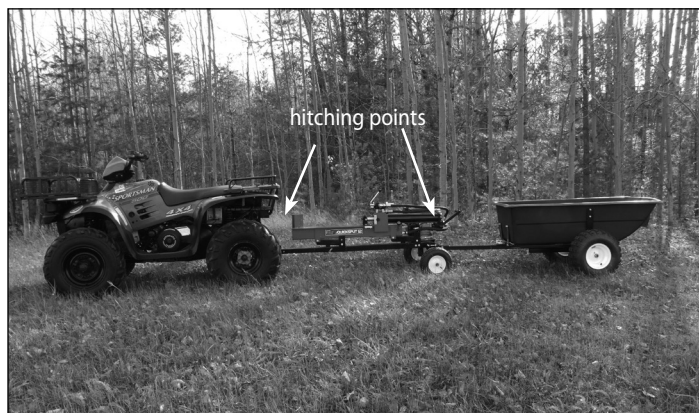

Figure 29
3. Your log splitter is equipped with a tandem hitch which allows you to tow an off road ATV/garden type trailer etc. at the same time. **DO NOT exceed 100 lb. tongue weight. SEE FIGURE 29.**